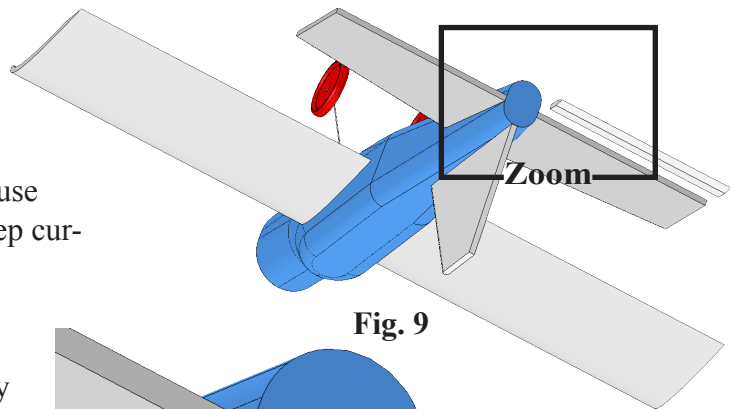

Fig. 9
Step 1. Rotate view to view rear of Fuselage, Fig. 9. Hold down middle mouse button (wheel) and drag.
Step 2. Zoom in on rear of Fuselage at Elevator, Fig. 9. To zoom, place the cursor over rear of Fuselage at Elevator and spin the wheel on mouse back. While spinning the wheel keep cursor on rear of Fuselage.